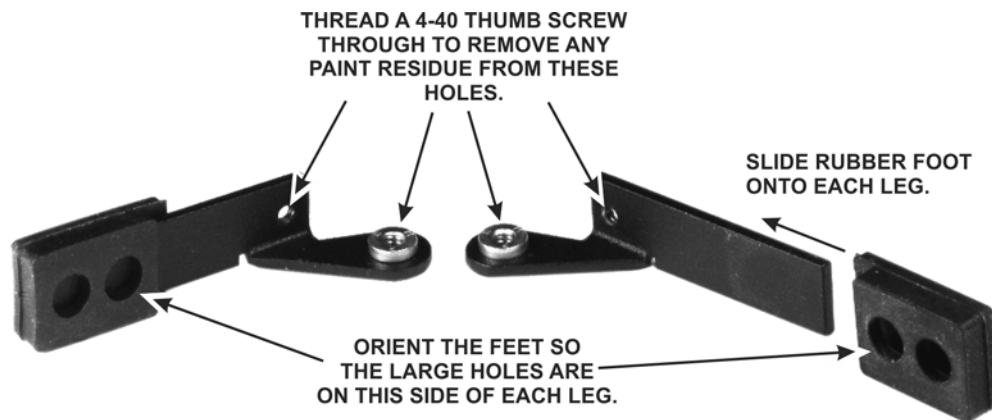

Figure 30. Preparing Tilt Legs for Installation – Part 1.
- ☐ Use the black thumb screw to clear any paint from the threaded holes in the tilt legs (see Figure 30).
- ☐ Slide the remaining two rubber feet onto the tilt legs as shown in Figure 30. The feet are held in place by friction. Be sure you work the feet all the way onto the legs as shown.